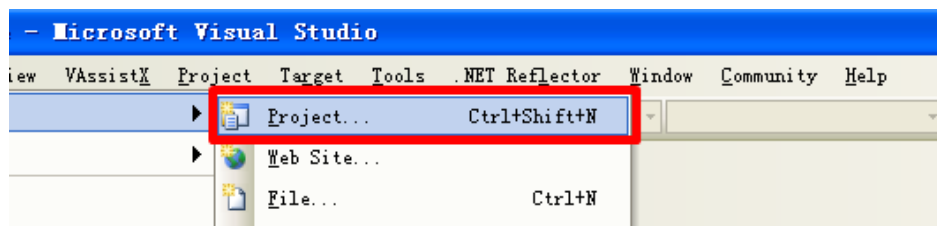

Figure6-1-10
1) You need to select the programming platform for the first time to open VS2005, and to create a new project when using VS2005. Click **File** → **New** → **Project**, as shown in Figure6-1-10: